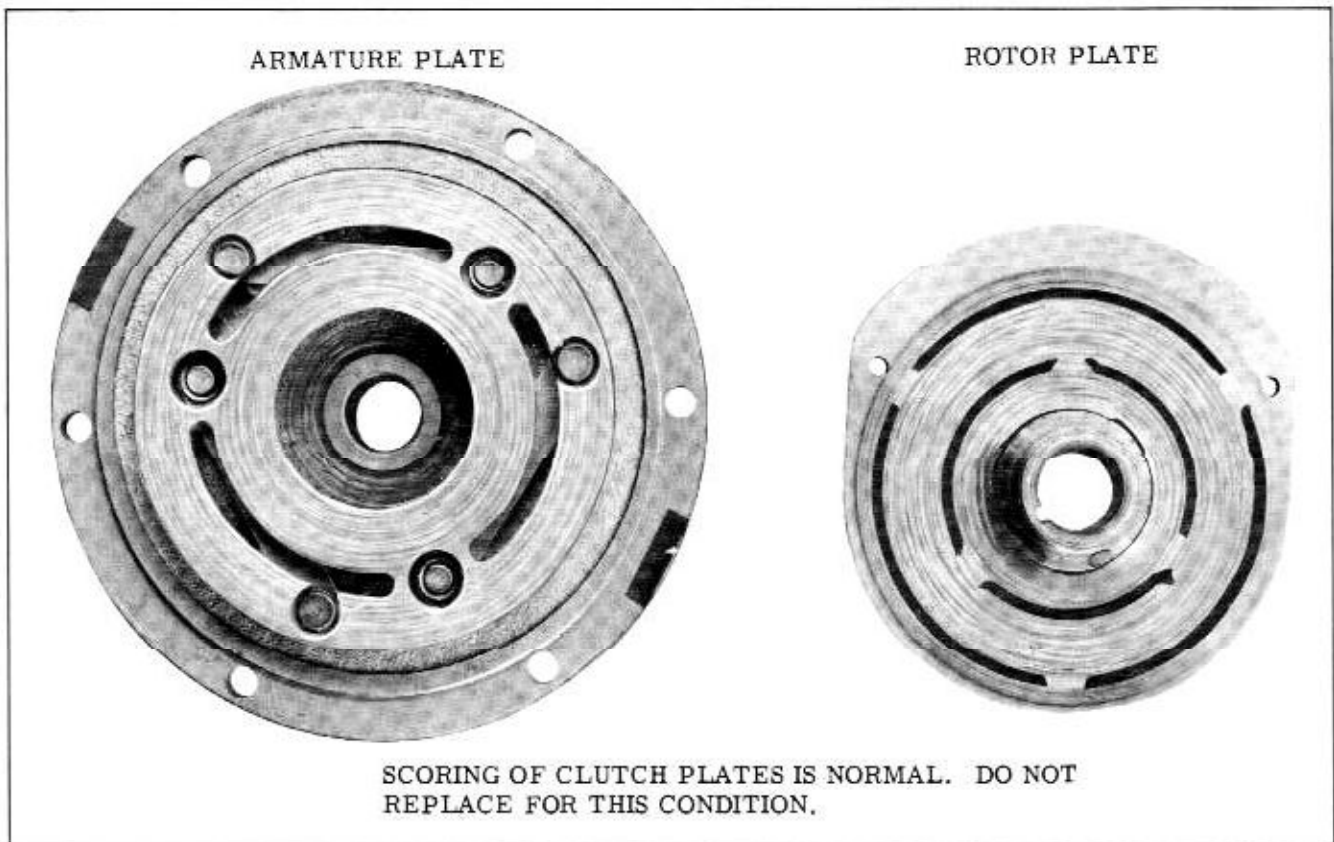

Fig. 14-24 Normal Clutch Plate Wear
5. Inspect pulley and armature plate for cracks or broken drive springs. Inspect rotor plate for cracks. Do not replace clutch plates for a scoring condition. (Fig. 14-24)